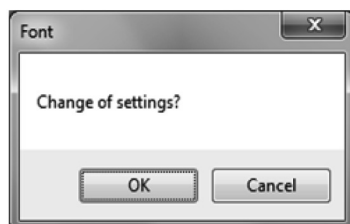

Fig.82
- ④ After the setting is complete, click the "OK" button to display a message box (Fig. 82).